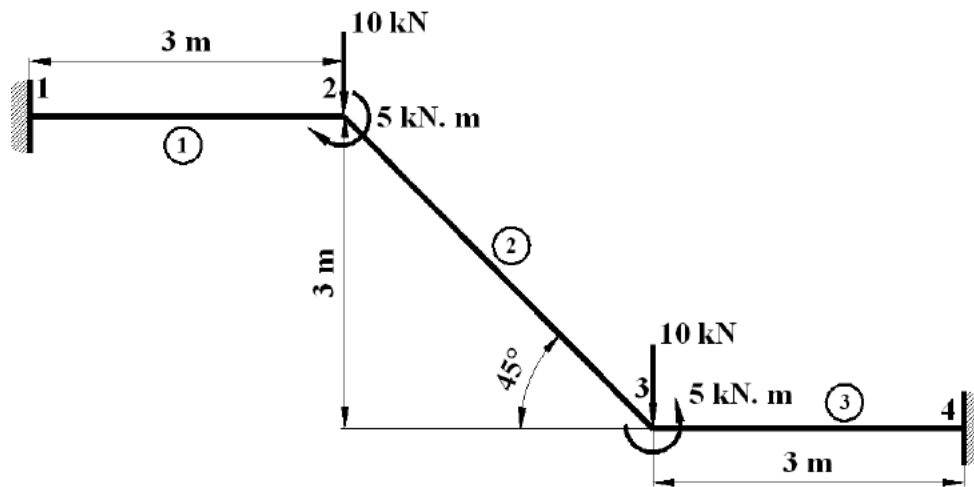

Figure P3.12
12. For the rigid frame shown in **Figure P3.12**, determine the displacements and rotations of the nodes, the element forces, and the reactions. Take $E = 210 \text{ GPa}$, $A = 1 \times 10^{-2} \text{ m}^2$ and $I = 2 \times 10^{-4} \text{ m}^4$.